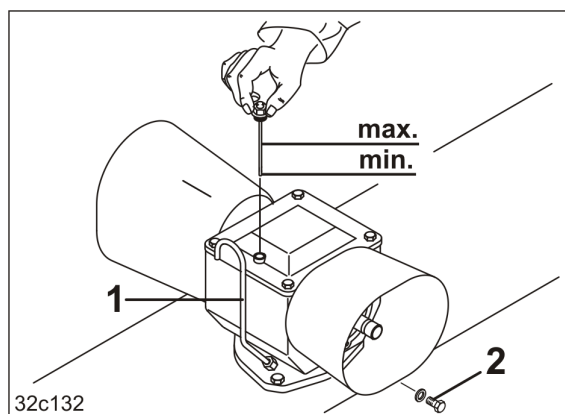

Fig. 137
The gearbox is equipped with a vent pipe (Fig. 137/1).
3. Unscrew the oil drain screw (Fig. 137/2).